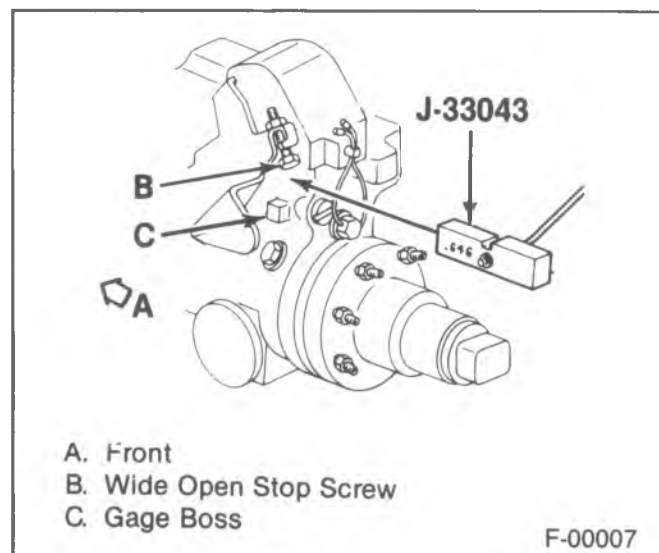

Figure 13—TPS Adjustment Block
4. Insert the proper "switch closed" gage block between the gage boss on the injection pump and the wide open stop screw on the throttle shaft (figure 13).
4. Insert the proper gage block between the gage boss on the injection pump and the wide open stop screw on the throttle lever (switch on position) (figure 13).